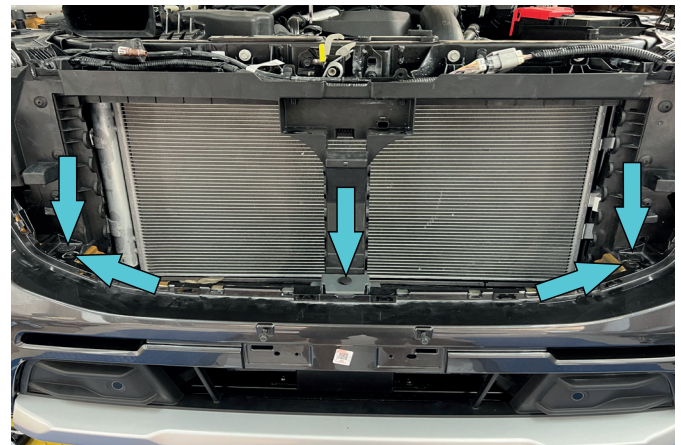

Fig.10
10. Remove plastic clips, unscrew bolts and remove OE bumper (fig.10).